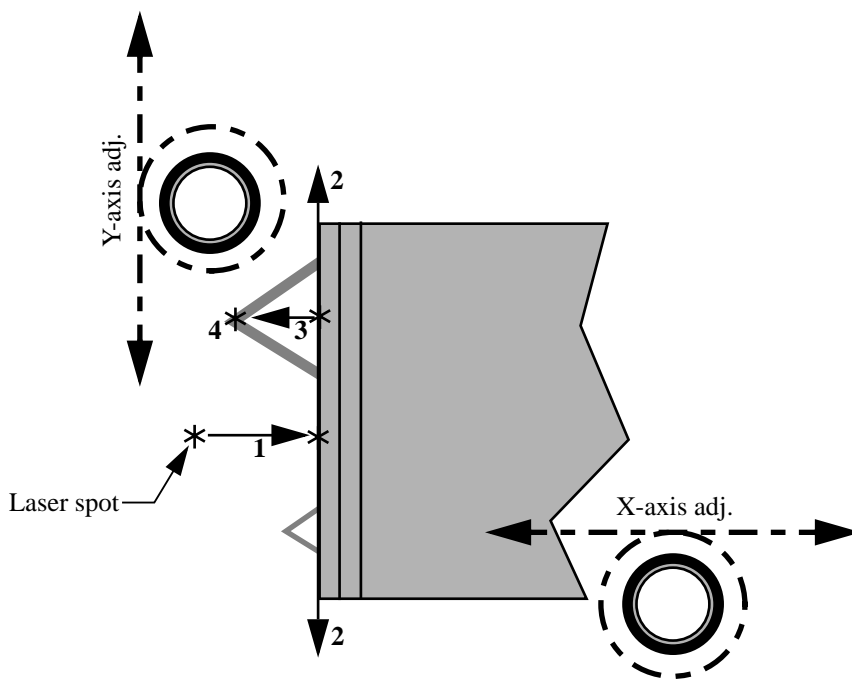

Figure 5.9. Laser spot positioning.
4. Find the cantilever with the laser spot (figure 5.9).